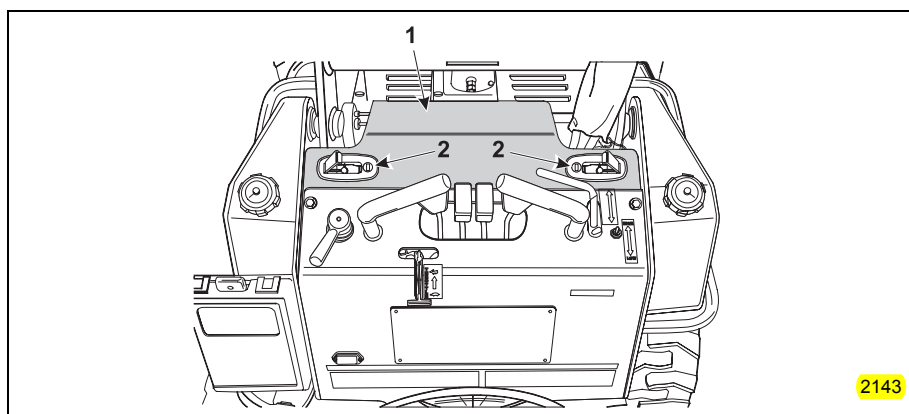

Figure 4-6 Remove Upper Inspection Panel
- c. Press the lock button on the upper inspection panel locks, which will release the panel locks (Item 2, Figure 4-6). Remove the inspection panel (Item 1, Figure 4-6).